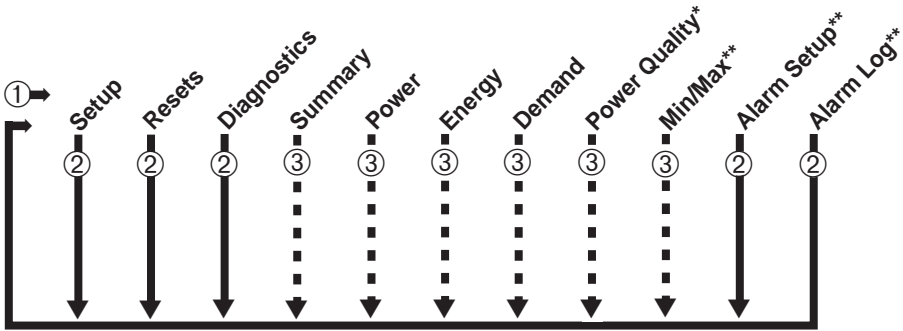

Figure 7-1: Navigating power meter parameters
To access a mode, refer to figure 7-1 while following these steps:
1. Press the *Mode* button until the desired mode appears (①, figure 7-1).
3. For Setup, Resets, Diagnostics, Alarm Log\*\*, or Alarm Setup\*\* modes, press the *Select* button to select a field (②), and move through screens in that mode.